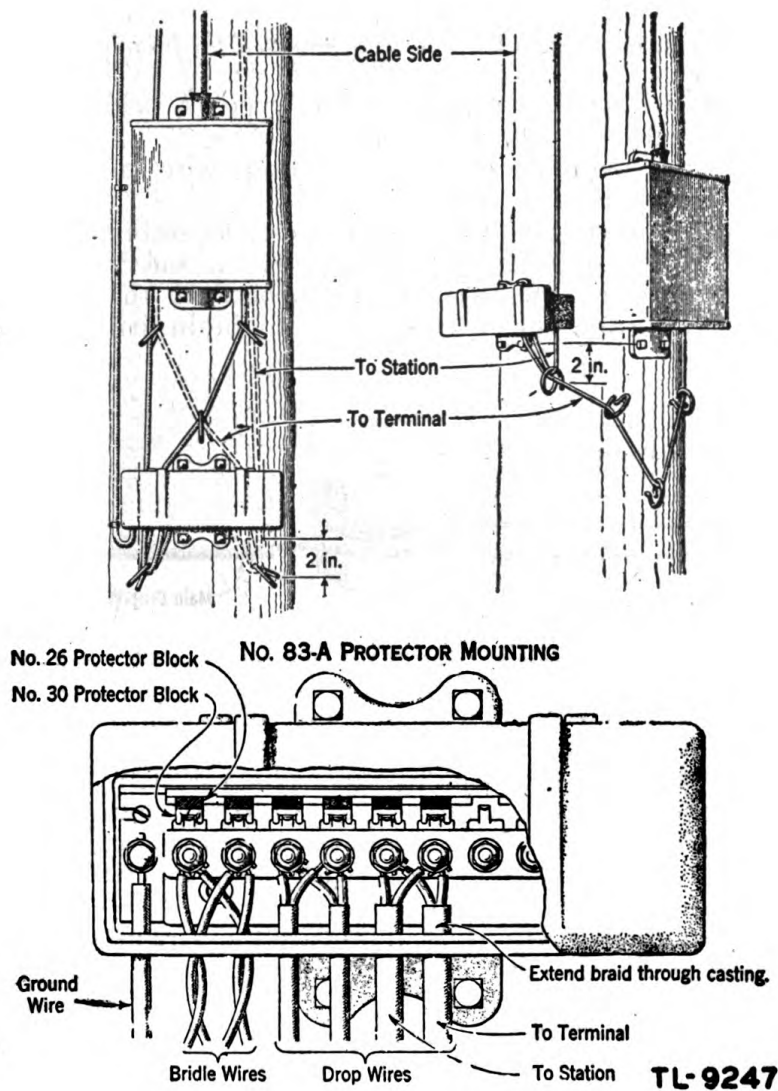

Figure 52. Wiring at No. 83-A protector.
(4) Where a metallic return is used for a battery feed serving a 1-position switchboard, strap the positive binding posts together in one group and the negative binding posts together in another group. Terminate one conductor of the service wire or cross-connecting wire on a binding post of a positive group, and terminate the other conductor on a binding post of the negative group.
(5) Do not strap together groups of feeders operating through separate fuses at the central office. When each pair, including both conductors, is fused separately at the central office, terminate one conductor of the service wire, or cross-connecting wire, on each strapped pair.
*g.* **WIRING AT NO. 83-A PROTECTOR MOUNTING.** When No. 83-A protector mounting is required in conjunction with cable terminals, wire as shown in figure 52.